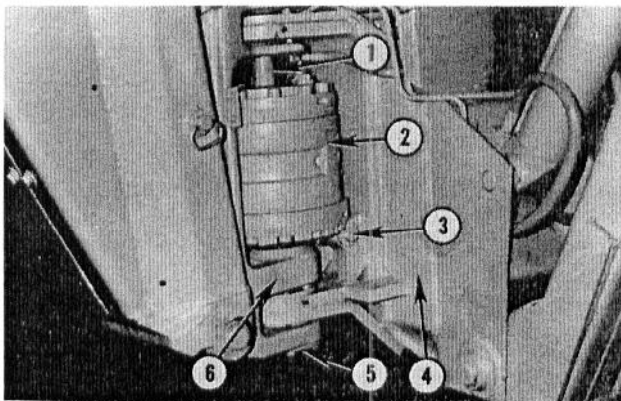
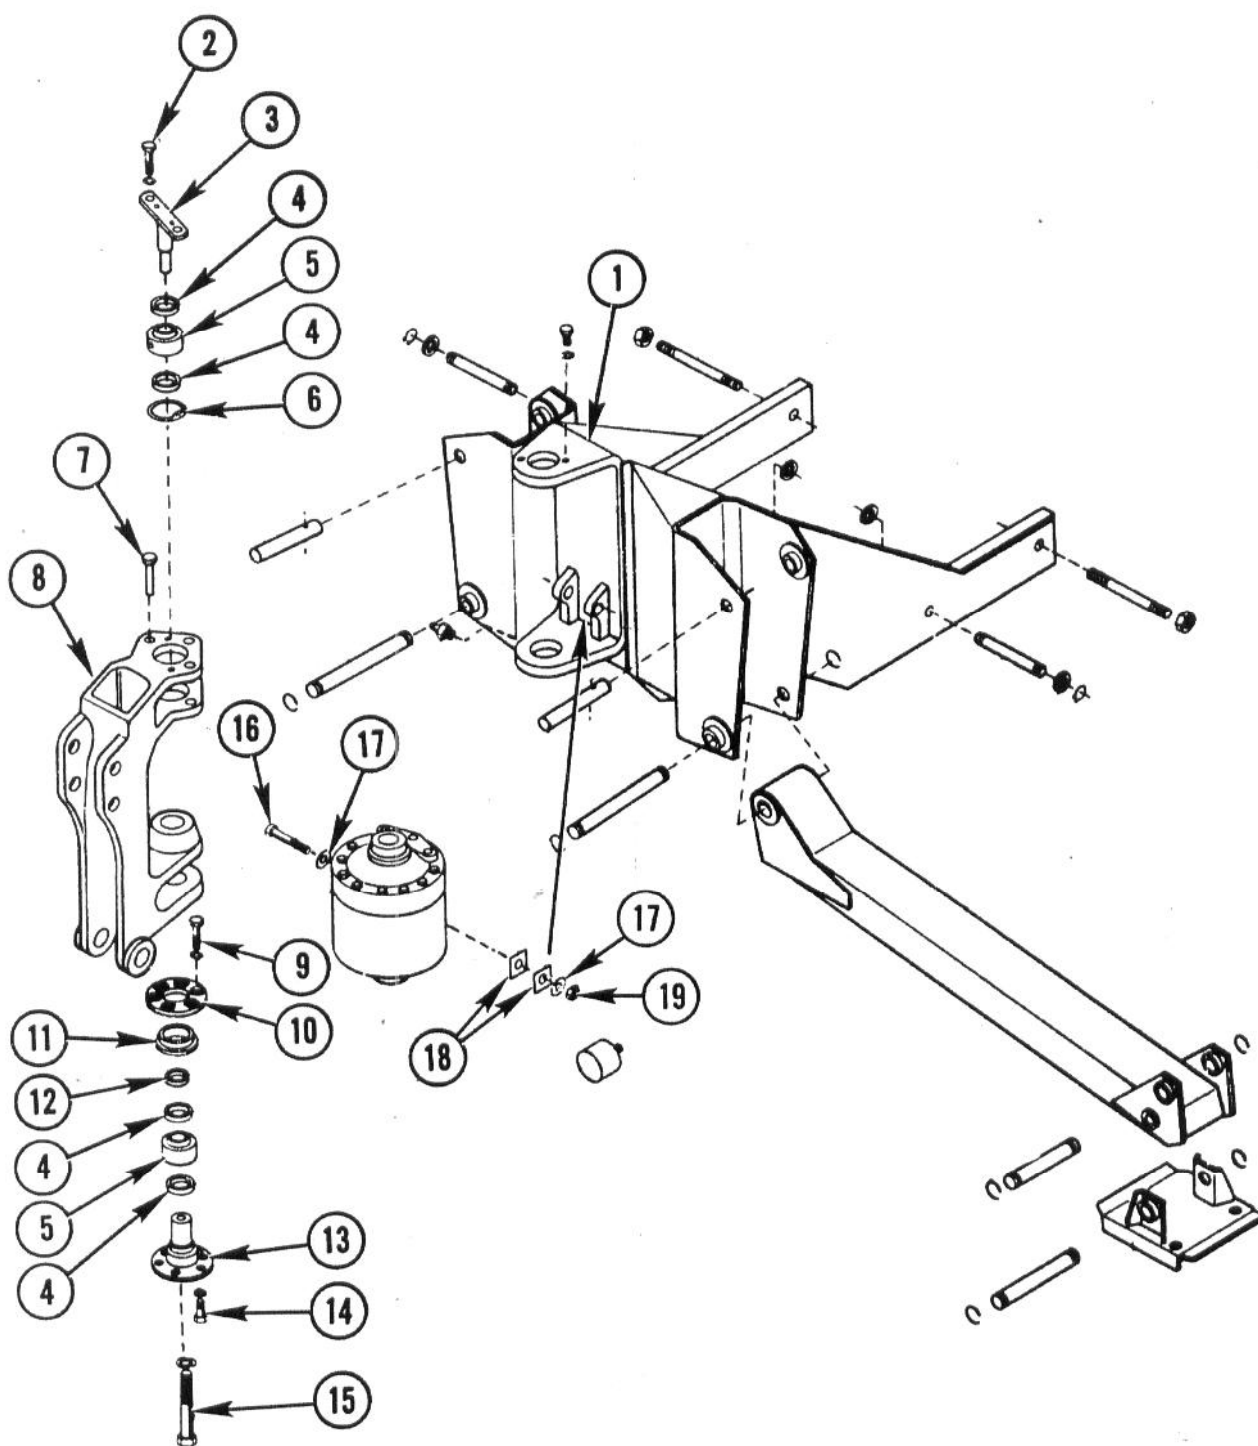

Fig. 20 — Swing Cylinder Installed — MF 54A Backhoe Shown
Fig. 22 — Back Frame, Pivot Casting and Rotary Cylinder
These cylinders are "cradled" by the main frame (i.e.: back frame) and swing post assemblies (i.e.: pivot casting) as shown in Figs. 20 and 21. The vane shaft (of rotary cylinder) has splines which fit into mating splines in pivot casting ... A bolt is used to secure the vane shaft (at lower end). A pin assembly is installed through the top of pivot casting and back frame assemblies ... This pin protrudes downward into top of rotary cylinder shaft vane. A large bolt, nut and two flatwashers secure the rotary cylinder to the back frame assembly (shims are used between rotary cylinder and weld on back frame to reduce clearance), see Fig. 22.
5. Remove the shaft retaining bolt ... then the barrel retaining bolt, see Figs. 20 and 21.